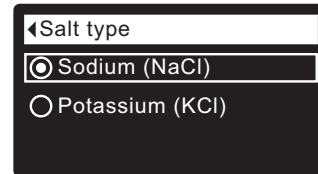

FIG. 42
5. Press the SELECT (O) button to display the Salt type menu (See Figure 42).
6. If the desired salt type already has a black dot next to it (See Figure 42), go to Step 7. Otherwise, press the conditioner’s DOWN (▼) or UP (▲) buttons to scroll to the other salt type, then press SELECT (O) to choose it.
7. Press the SELECT (O) button. The display will go back to the Salt settings menu.